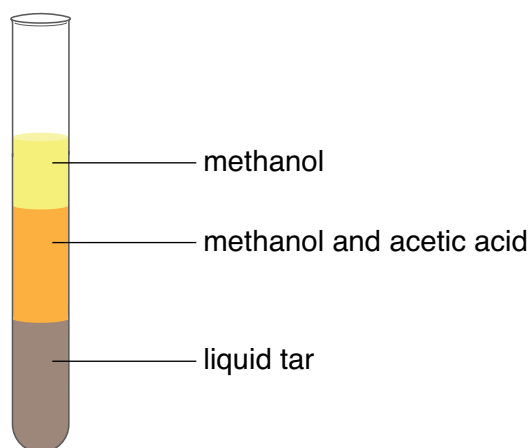

Figure 3
- Answers will vary. See Figure 3 for an example. Tar is found at the bottom of the tube since it is the most dense. The methanol/acetic acid mixture (pyroligneous acid) forms above the tar, and any pure methanol will be found in the top layer of liquid.